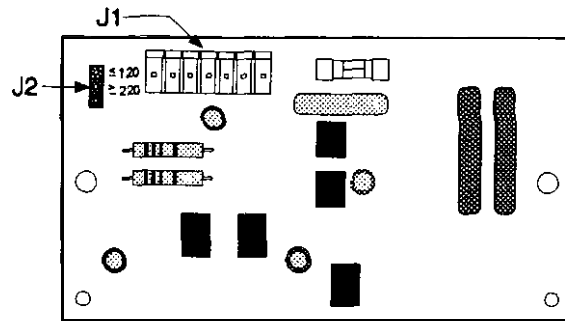

Figure 21
- Locate the backfeed relay** driver board next to the relay. (See Figure 10 above.) Move the jumper at J2 to the ≤ 120 V after changing the voltage to 120 VAC or to the ≥ 200 V position after changing the AC **input** to 208 or 240. (See Figure 21 on the next page.)